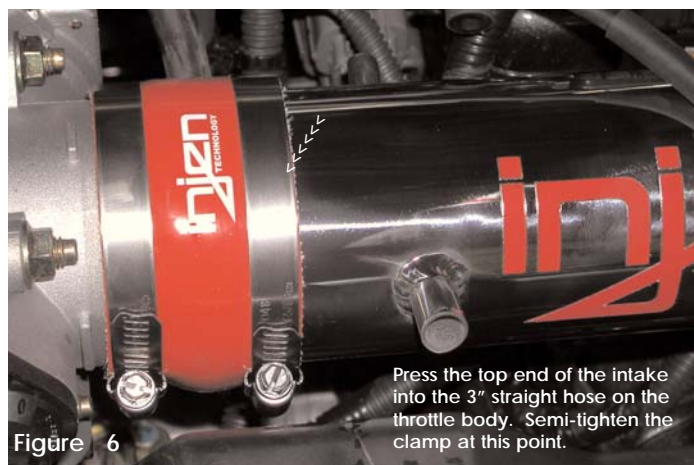

Figure 6
- 5 Now place the intake into the straight hose on the throttle body and align the bracket on the intake to the vibra-mount stud. (See figs. 6 and 7)